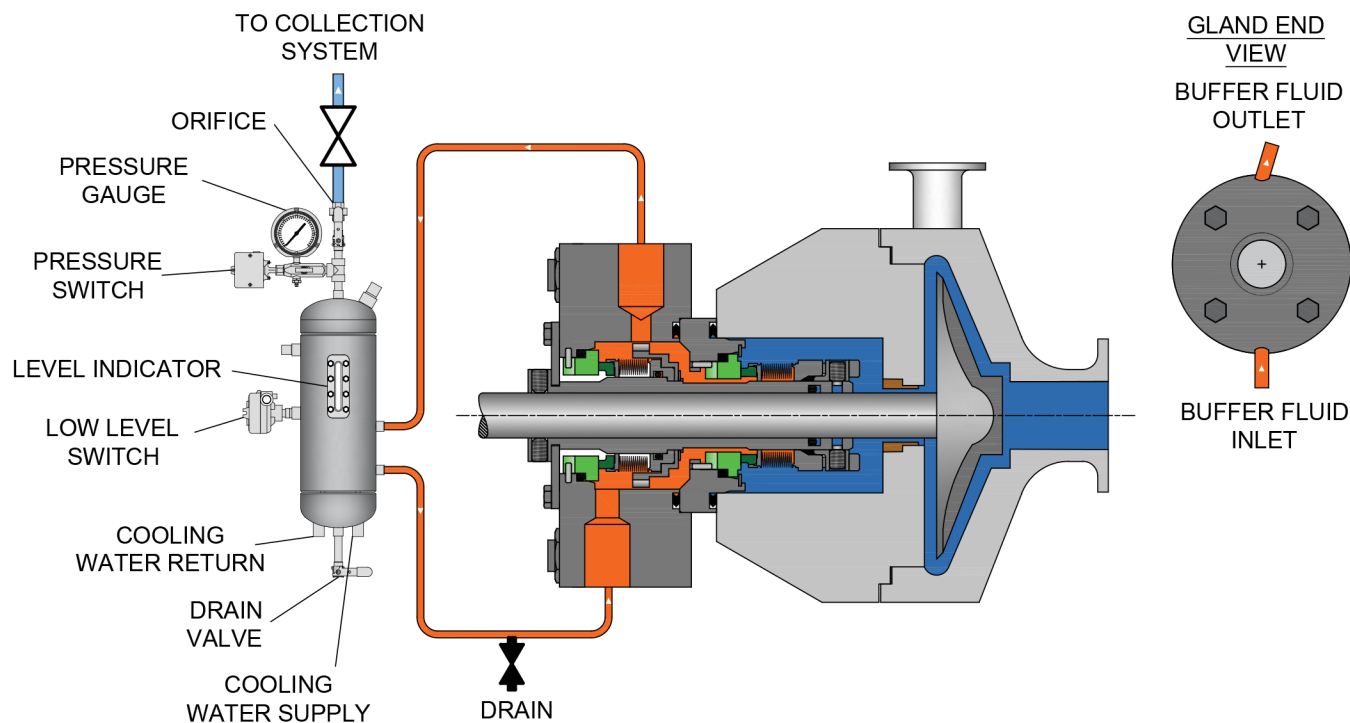

Figure 1: External reservoir providing buffer liquid to outer seal.
10. For Plan 52 configurations (Figure 1), connect the reservoir VENT connection to plant flare or a vapor recovery system.